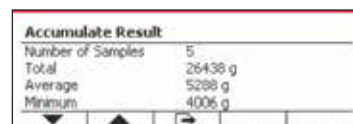

Figure 31
- To view accumulation results, press the softkey corresponding to the icon. The Accumulate Result screen is displayed. (See Figure 31)